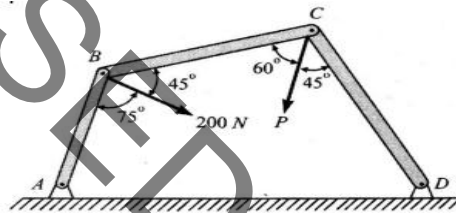

Figure.3
- b) Three bars pinned together at B and C and supported by hinges at A and D as shown in figure 3 form a four-link mechanism. Determine the value of P which is required to hold the system in equilibrium. [5+5]